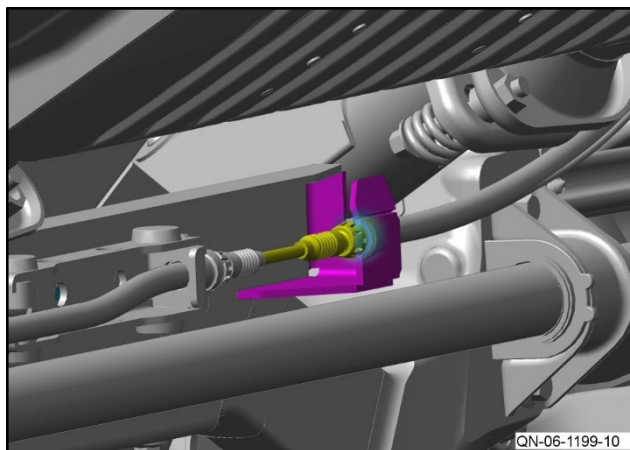

Figure 13
- 14** Install the park brake cable into the park brake bracket (refer to Figure 13).